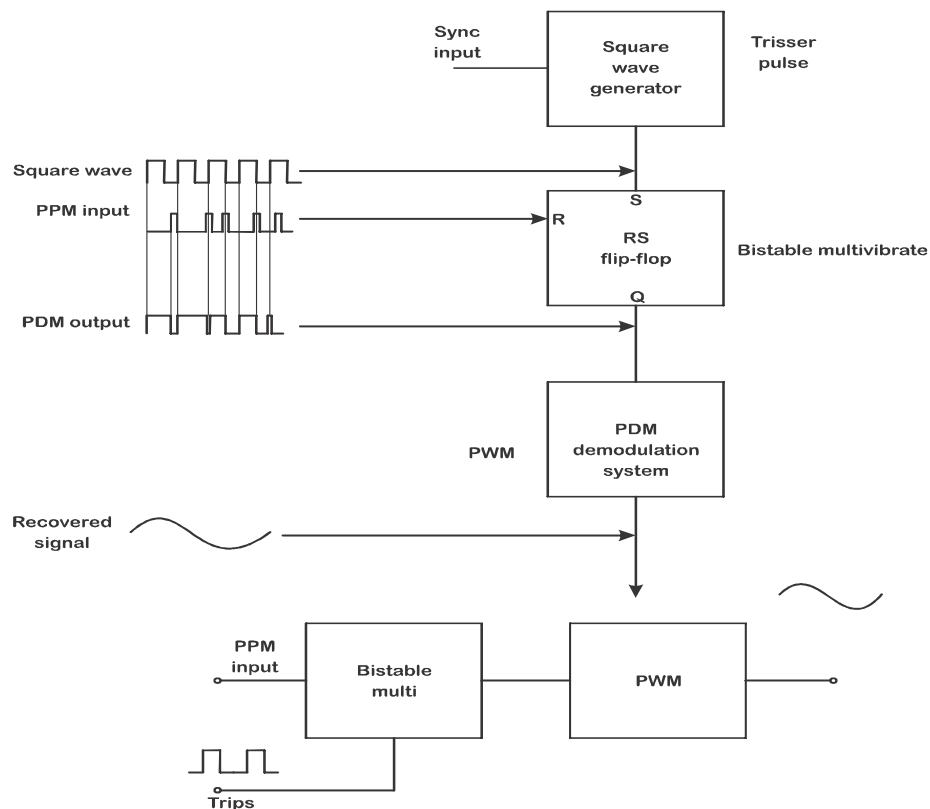

Fig.3.11
- ❖ The block schematic of PPM generator is shown in fig 3.11
- ❖ For demodulation of PPM, a PWM waveform is first constructed by triggering an RS Flip Flop as shown in fig 3.11.
- ❖ The flip-flop in fig.3.11 is reset by the leading edge of the PPM Pulses.